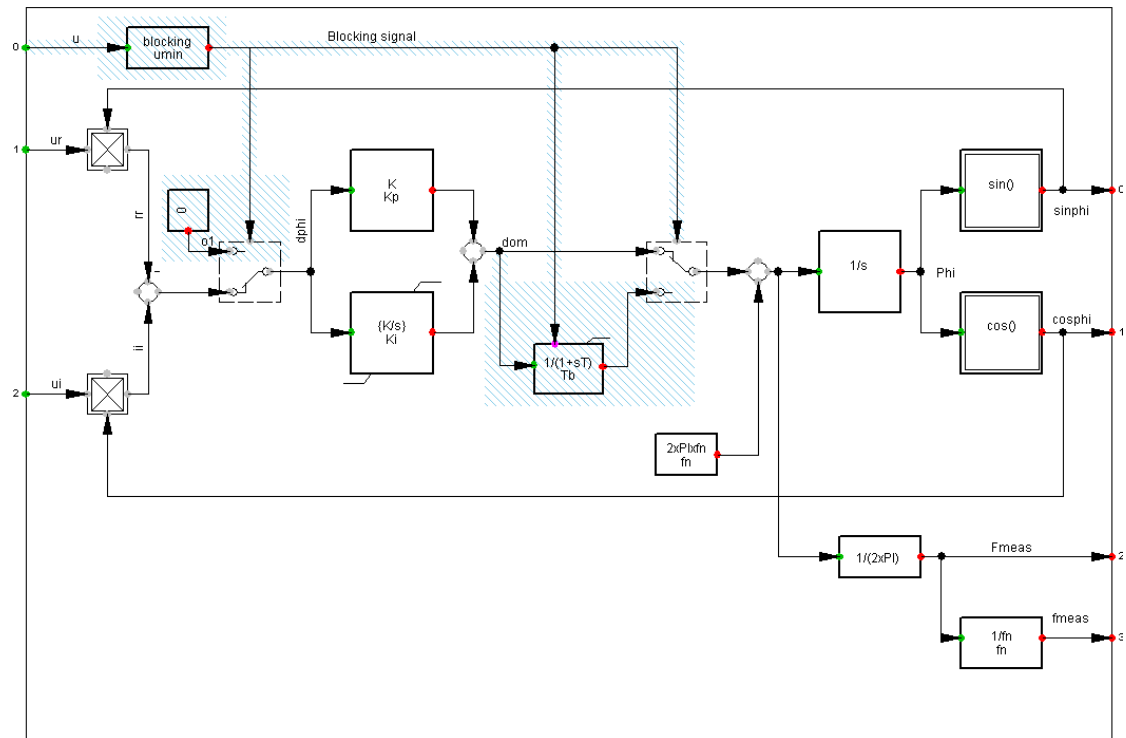

Figure 3.1: DlgSILENT PLL block diagram (EMT simulation)
The block diagram of the PLL is presented in Figure 3.1.
The phase voltages available from the EMT-simulation are set to the input values of the PLL  $u_a$ ,  $u_b$  and  $u_c$ . The internally used voltages in the PLL,  $u_r$  and  $u_i$  (Figure 3.1), are calculated by using the  $\alpha\beta$  transformation on the input voltages.
- $dphi$  is the dphi signal (see Figure 3.1).
The blocking functionality in the EMT model is very similar to the one in the RMS model. When this option is enabled, the blue colour shaded blocks in Figure 3.1 are enabled.
The single-phase signal from the EMT-simulation and the constructed image signal are fed to the PLL algorithm presented in Figure 3.1.